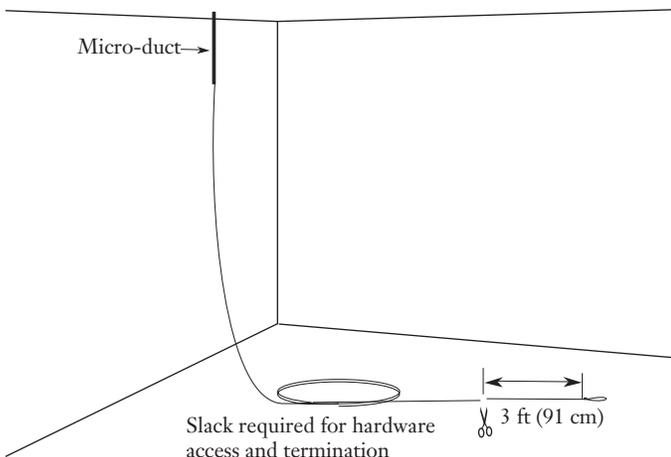

Figure 13
7.5 Pull enough cable through the far end to reach the termination location, plus normal cable slack, plus three feet. Cut the cable three feet (91 cm) behind the crimp sleeve (Figure 13).